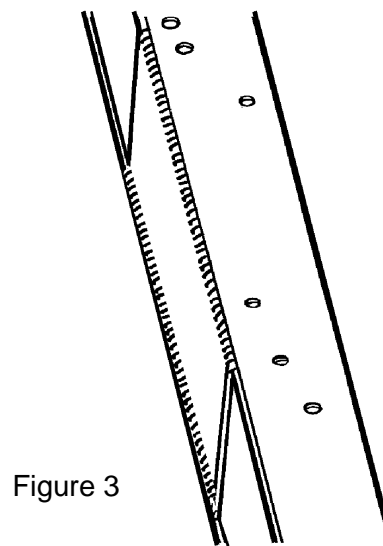

Figure 3
6. The next step is to box the rails. The edges of two layers of metal probably don't line up very well on the frame flanges. Grind them down so they are flush and straight, and the boxing plates fit tight against them. (If the boxing plates fall into the frame rails, the rails are still too wide. Repeat step 5.) Caution: Do not grind too much material off the flanges. The finished boxed rails should end up being 2-5/8 inches wide in the new crossmember area. The rest of the rail is not as critical. See Figure 3.